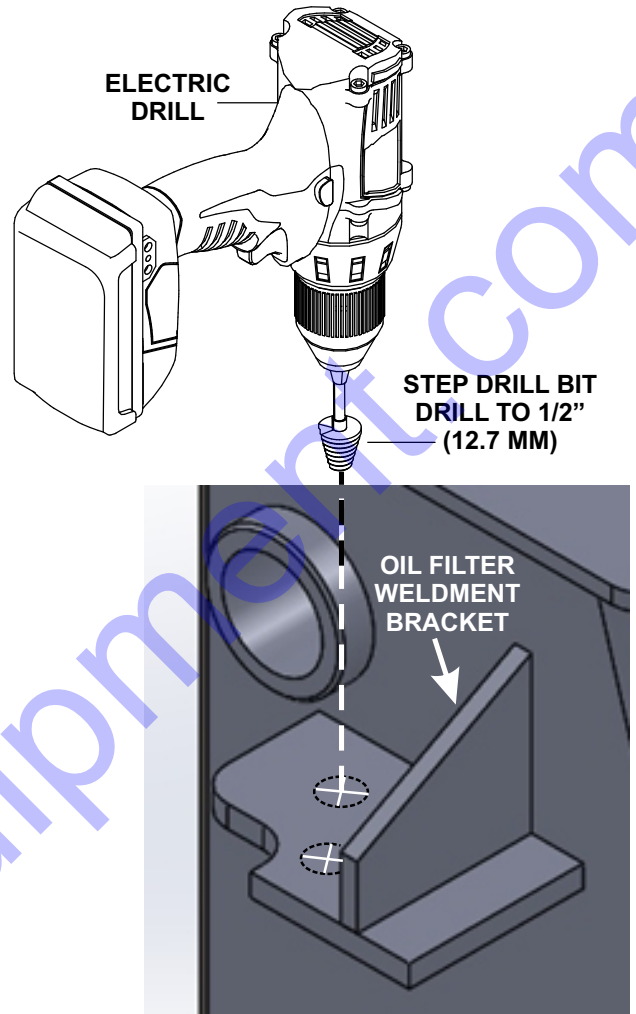

Figure 7. Drilling Holes
2. Next, using a step drill, drill a 1/2-inch (12.7 mm) hole into the oil filter weldment bracket as shown in Figure 7.